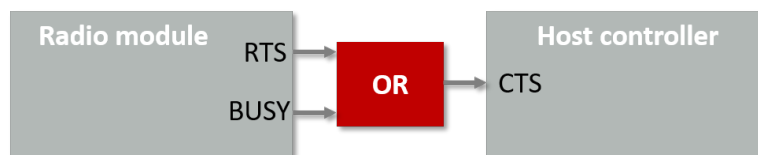

Figure 12: Transparent mode flow control
- **Flow control:** The Thyone-I implements additional `BUSY` pin to indicate that the module is busy doing radio tasks and hence cannot accept any more data on the UART. It is mandatory to implement the Thyone-I `BUSY` pin and enable the UART flow control on the host and Thyone-I in order to prevent data loss on the UART (Figure 12). In the absence of this flow control scheme, the application must be able to accept/handle loss of data.